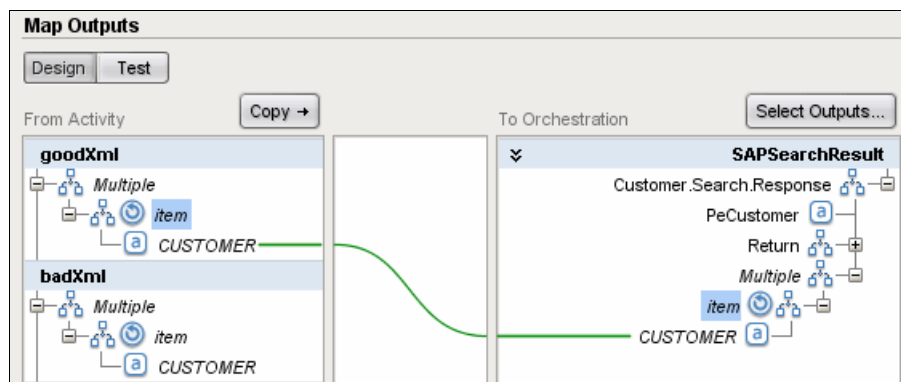

Figure 10-52 SAP filter output mapping
7. In Map Outputs, map the goodXML CUSTOMER field, as shown in Figure 10-52.